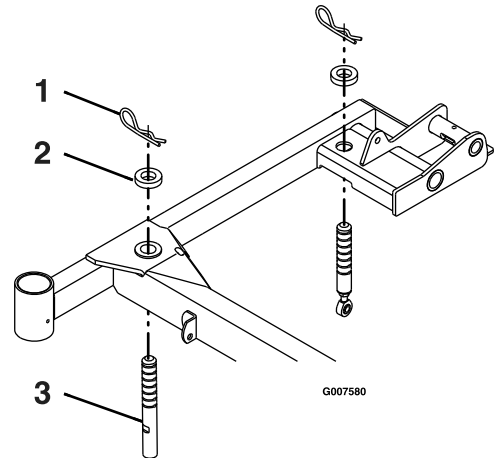

Figure 63
4. Verify that all hairpin cotters are in the 7.62 cm (3 inch) mower-deck-height holes with the spacers under the hairpin cotters (Figure 63).
5. Shorten or lengthen each mower deck support pin to obtain blade tip height of 7.62 cm (3 inches) at the front of the deck and 8.26 cm (3 1/4 inches) at the rear of the deck (Figure 63).